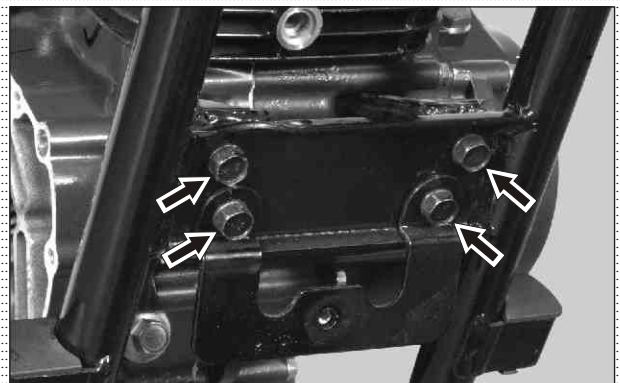

Fig. 3.44
- Remove hexagonal bolts (M8x16 - 4 nos) from the bracket complete engine mounting front L & R and separate the bracket complete guard center. (Fig. 3.44)